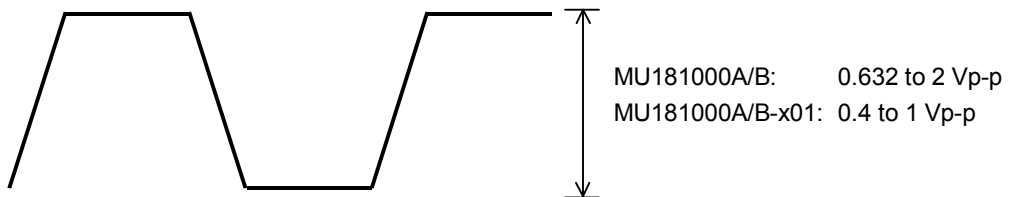

Fig. 6.3.1-2 Example of waveform measured by sampling oscilloscope
4. Use the averaging function of the sampling oscilloscope to measure the waveform, and then check that the level of the measured waveform falls within the range shown in Fig. 6.3.1-2.
5. Change the Center Frequency value in the MU181000A/B operation window as shown below, and perform measurement in the same way. Check that the waveform level falls within the range shown in Fig. 6.3.1-2.